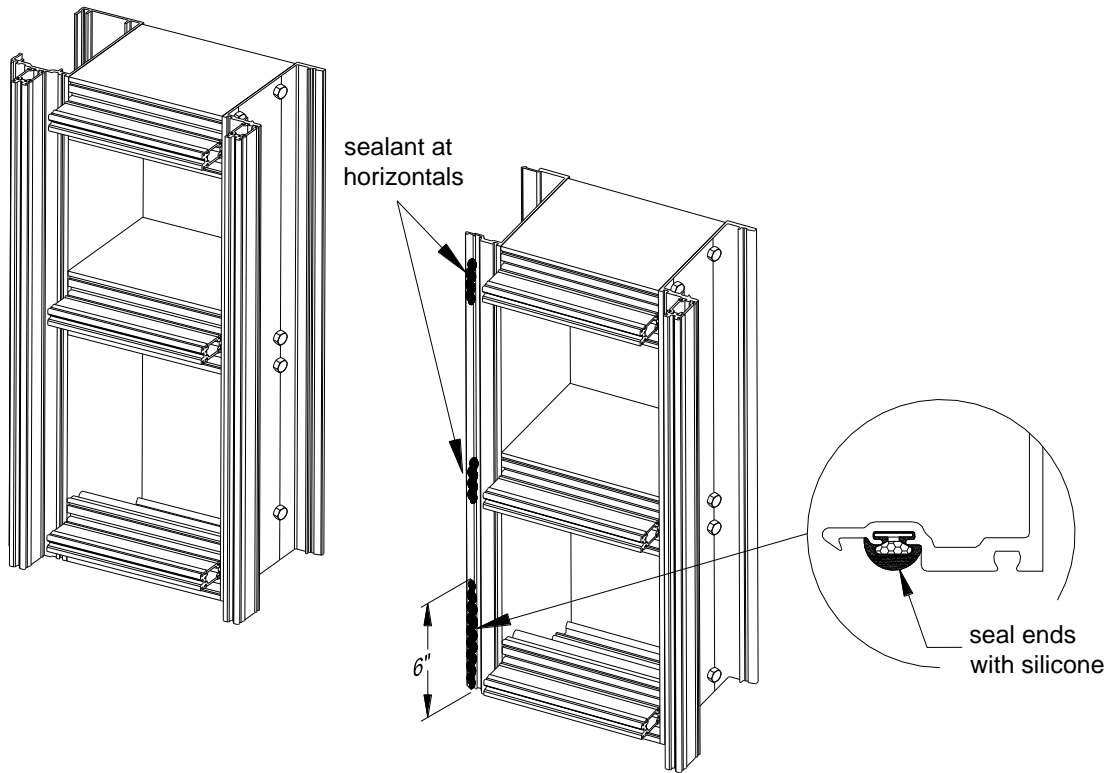

Figure 14: Slide-In Anchor Method
- 6.3 Just prior to setting next bay into opening, seal bulb gasket at sill to 6" above bottom of mullion. **NOTE: THIS 6" SEAL IS REQUIRED AT THE SILL AND BOTTOM OF MULLIONS AT SPLICE JOINT. See FIGURE 14.**